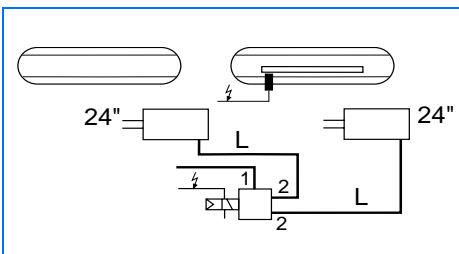

Fig. 5
The length of the lines between the ABS relay valve and the brake cylinders should be as short as possible, and never more than 2.5 metres. If two brake cylinders are actuated by one ABS relay valve, both operating ports (2) must have lines of equal length leading to the brake cylinders (Fig. 5). Their nominal width should be between 9 mm and 11 mm. The nominal width of the supply lines leading to the ABS relay valves (Port 1) should be as great as possible (NW ≥ 9 mm).